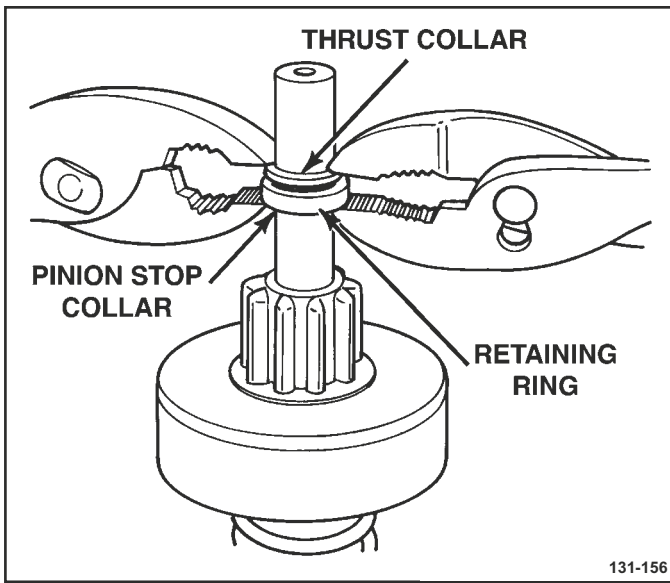

Figure 4-20 Installing Retainer, Washer and Ring
5. Thrust collar to end of shaft with small flange toward retainer ring. Use pliers as shown in figure 4-20 to snap pinion stop collar over retainer ring.